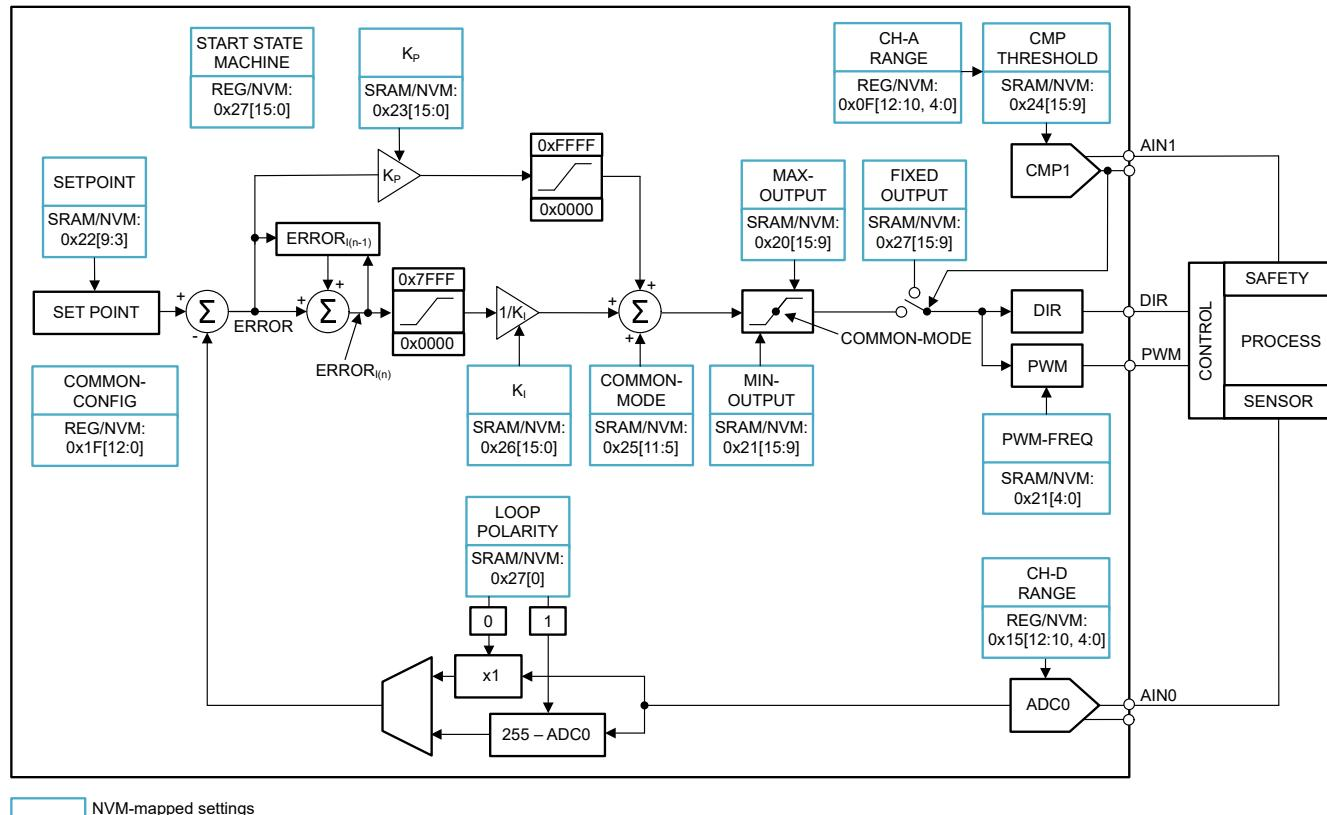

Figure 7-7. PI Controller Architecture of AFE439A2
The AFE439A2 provides a preprogrammed PI controller state machine, as shown in Figure 7-7. ADC channel 0 is used as the input and SDA/SCLK/PWM pin is used as the output. DAC channel 1 is used as a comparator that is used to set the output of PWM output to a value specified by the FIXED-OUTPUT field. Table 7-5 lists all the input/output pin names and functions.
2. Connect the ADC input, comparator input, and DAC output as shown in Figure 7-7.